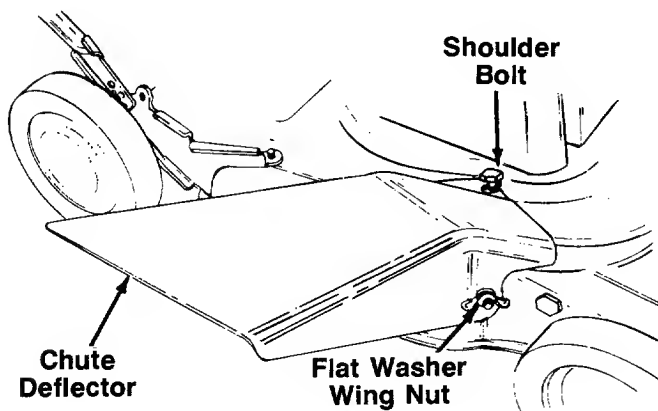

FIGURE 9.
2. Secure the front of the deflector to the bolt protruding from the deck with one flat washer and wing nut. See figure 9.